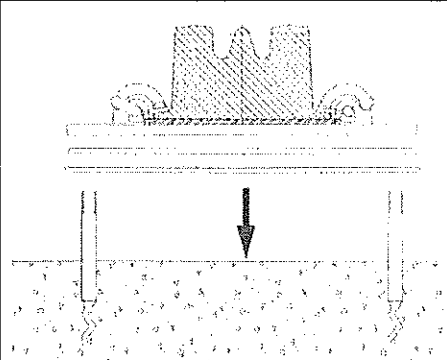

Fig. 12-Insert pads and the crossing onto the anchors
2. Place the intermediate pad and elastic pad over the anchor bolts onto the sleeper and insert the crossing with pre-assembled baseplates onto the pads, Fig. 12.